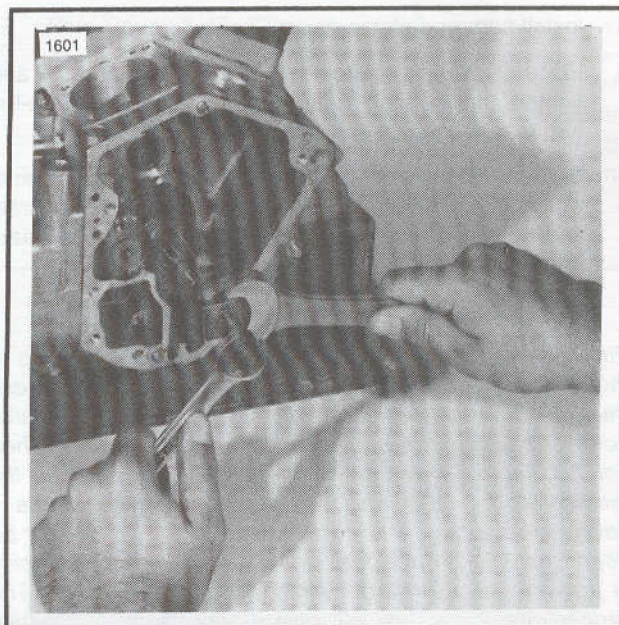

Figure 3-43. Pull Pinion Gear
2. Remove tappet oil screen cap (1), O-ring (2), screen spring (3) and screen (4). If necessary, drill out two cover rivets and remove outer cover (5).
3. Remove two ignition sensor cover screws (6), cover (7) and gasket (8).
4. Remove sensor plate screws and lockwashers (9).
6. Remove screw (11) and rotor (12).
8. Tap gearcase cover with soft face mallet to loosen and remove gear cover (16) and gearcase cover gasket (17).
9. Remove breather valve spacing washer (18) and breather gear (19).
10. Remove cam gear and camshaft (20), and thrust washer (21).
11. Remove pinion gear shaft nut (22) which has a left hand thread. Use PINION SHAFT NUT SOCKET, Part No. HD-94555-55C.
12. See Figure 3-43. Pinion gear (23) is a keyed slip fit. If necessary, remove pinion gear using PINION GEAR PULLER AND INSTALLER, part No. HD96830-51A. Tool has left hand threads.